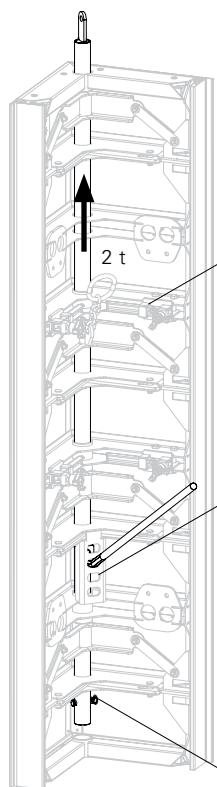

Fig. D5.09
2. Loosen wingnuts on the Positioning Waler and push the slider back. (Fig. D5.09 + D5.09a)
7. Insert pins 20 x 102 into the tube and secure with cotter pins 5/1 (80.3). (Fig. D5.09 + D5.09b)